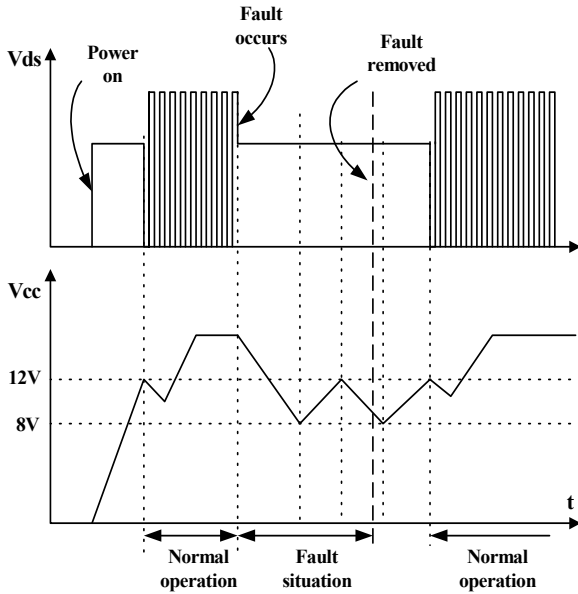

Figure 6. Auto restart operation
**3. Protection Circuit :** The FSDM0565RB has several self protective functions such as over load protection (OLP), over voltage protection (OVP) and thermal shutdown (TSD). Because these protection circuits are fully integrated into the IC without external components, the reliability can be improved without increasing cost. Once the fault condition occurs, switching is terminated and the Sense FET remains off. This causes Vcc to fall. When Vcc reaches the UVLO stop voltage, 8V, the protection is reset and the internal high voltage current source charges the Vcc capacitor via the Vstr pin. When Vcc reaches the UVLO start voltage, 12V, the FSDM0565RB resumes its normal operation. In this manner, the auto-restart can alternately enable and disable the switching of the power Sense FET until the fault condition is eliminated (see Figure 6).